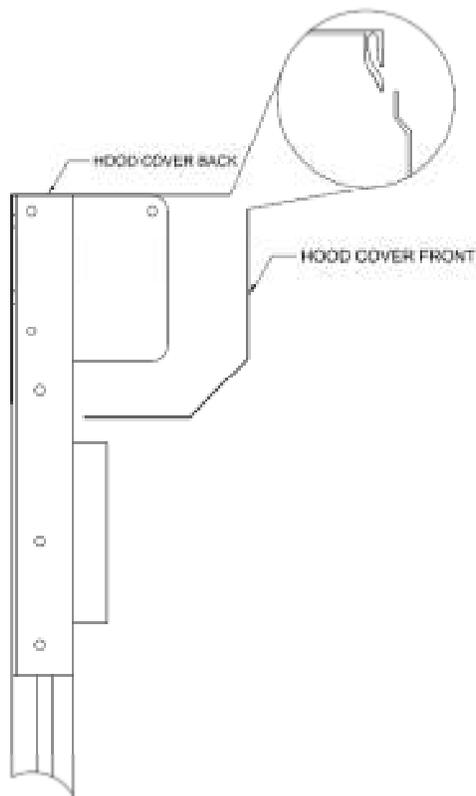

FIGURE 4
5. Slide the front part of the Hood into the slot on the back Hood. (See FIG 4.)